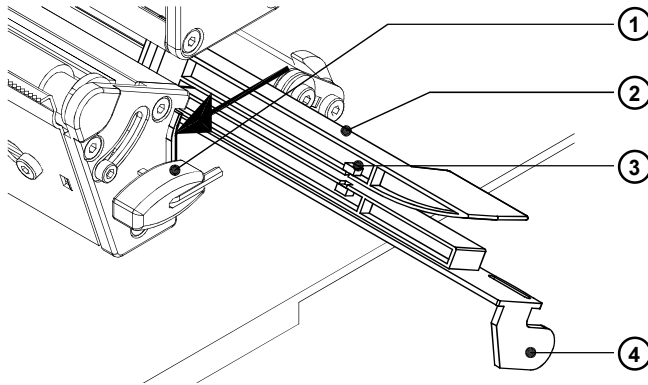

Fig. D-1 Cleaning the Label Edge Sensor
2. Press the latch (1) in the direction of the arrow in figure D-1.
3. Continue pressing the latch and pull the label edge sensor (2) with the handle (4) to its outermost position.